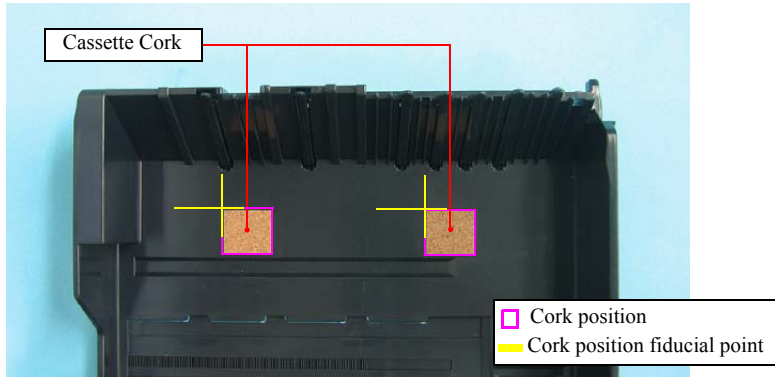

Figure 4-21. Removing the Cassette Assy (4)
- When attaching the Cassette Corks, first align their one corner with the fiducial point shown in Figure.4-21.